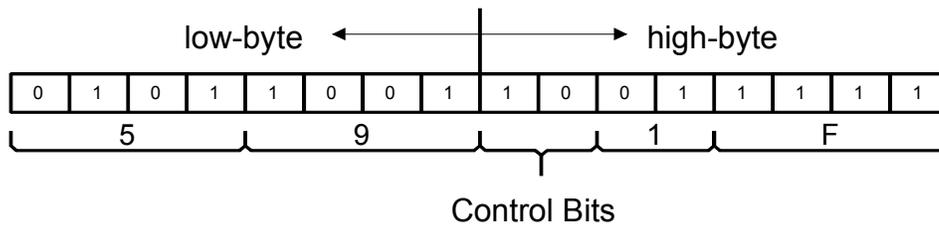

Figure 4-7. Terminating the DMA mode with the MSB Control bit set to “1”
- ON or 1 will set the 8026 in DMA state. After this, the instrument cannot accept normal commands but only binary bytes. Normal command mode is resumed when the DMA state is terminated. The DMA state is terminated automatically to DMA OFF when the most significant bit of the high byte is set to "1". Therefore, your last waveform point must contain DMA termination code as shown in figure 4-7.
As an example, Figure 4-7 shows word value of decimal 8025 (0x1F59) in a correct format for terminating the DMA mode.